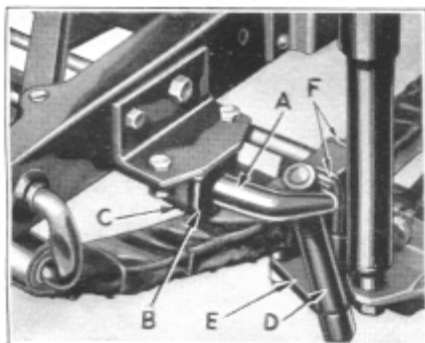

Figure 22
The stabilizer is attached to the front end of the frame side rails. The stabilizer bar (A), Figure 22, passes through two large rubber grommets (B), which are supported by brackets (C). The ball ends of the stabilizer bar which point downward and backward are imbedded in rubber bushings assembled in two links (D) which are supported by a mounting bracket attached to the front axle bearing caps by front spring clips (E).